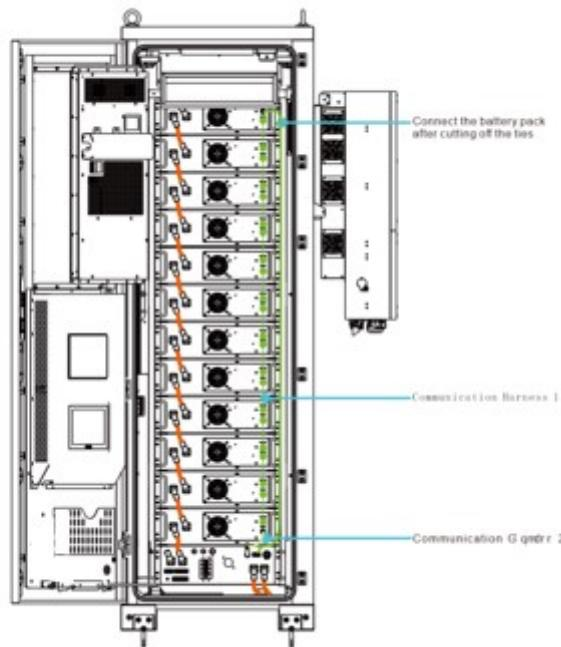

Fig.4-22 Connection Harnesses
Step2:Take 1PCSof Power Harness2 and connect it to the battery pack and HVbox as shown in Figure 4-22, the cables need to be installed in place, when you hear a “click” , it will be installed in place.